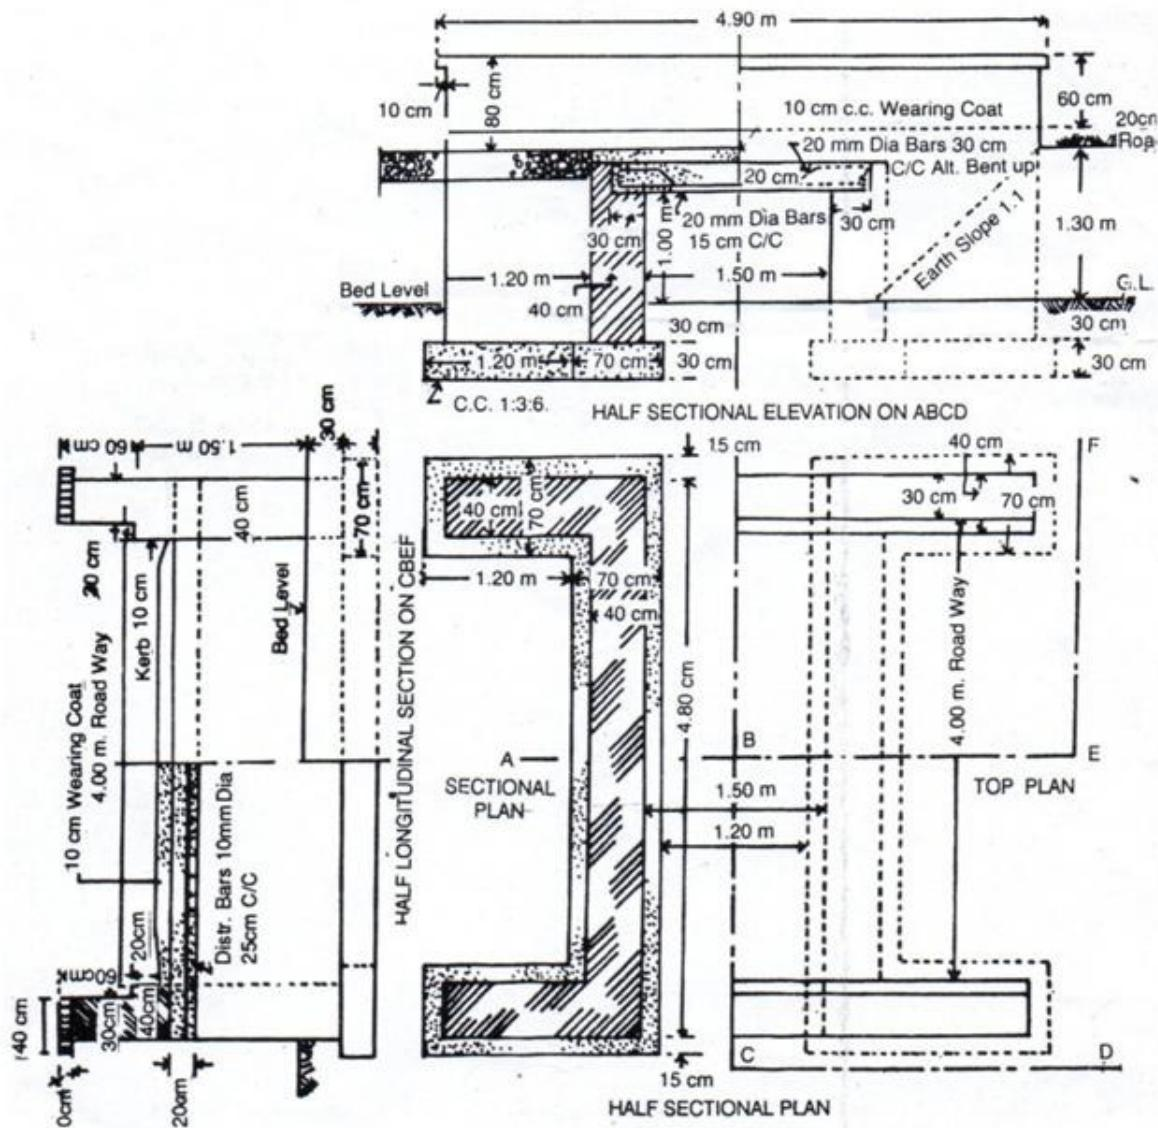

Fig 5.3
**Example 1.** — Prepare a detailed estimate of a slab culvert of 1.50 metre span and 4.00 metre roadway from the given drawing (Fig. 5.3). The general specifications are as follows :—
Preparation of detailed estimate for R.C.C .Single span slab culvert as shown in fig. 5.3